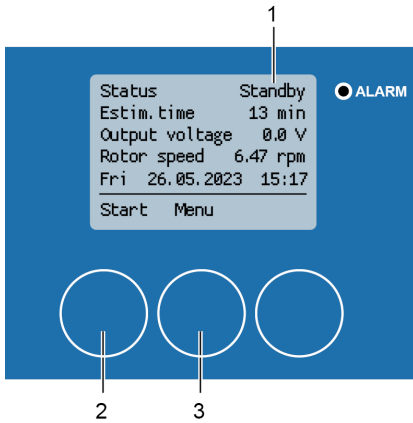

Fig. 163: Cleaning process start screen
⇒ After the cleaning carriage has reached its starting position on the rotor circumference, the cleaning process is complete. The status indication switches to “Standby” (Fig. 163//1).
2. Press [Start] (Fig. 163/2) to start the cleaning process again or [Menu] (Fig. 163/3) to open the “1 Main menu” menu.